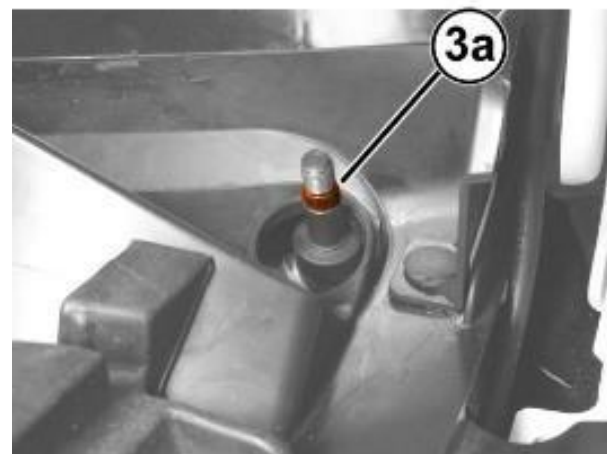

Figure 55 – Wiper Arm
43. Remove the nut (1a) and keep the washer (1b) (Figure 55).
44. Remove the wiper arm (2a) (Figure 55).
NOTE: If necessary, remove the wiper arm using a suitable extractor to release the ribbed truncated cone coupling (3a) (Figure 55).